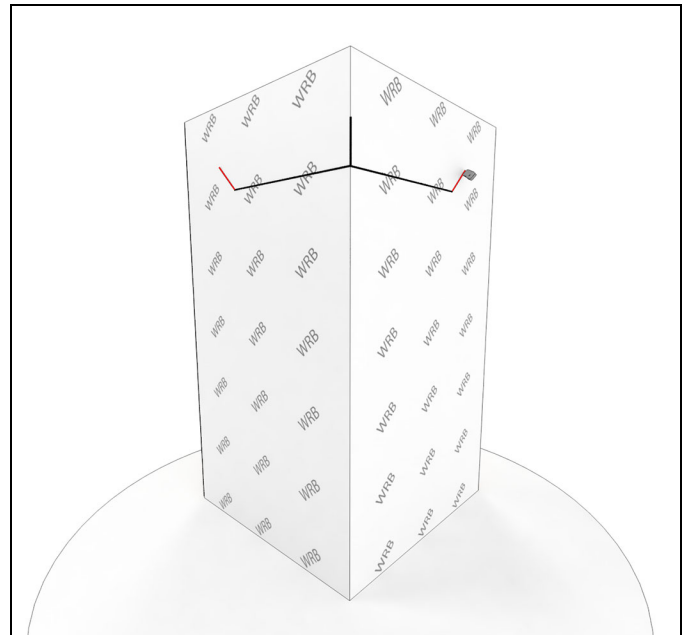

Figure 4
5. At the top corners, make a 45 degree cut away from the corner. See Figure 4.